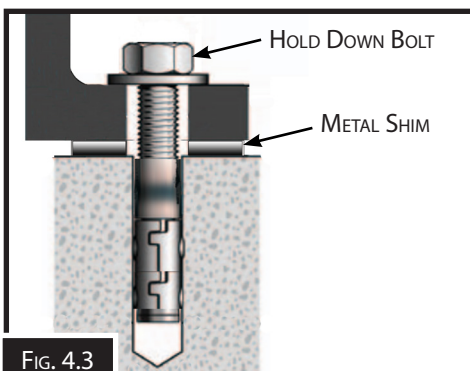

FIG. 4.3
After your machine has been anchored to a concrete slab floor, it then needs to be leveled. Loosen the hold down bolts and place a level on the surface of the working table. Metal shims need to be placed under corner of the base of the machine until level. Once level then tighten the hold down bolts. (Fig. 4.3).
*The machine must not rest on supports other than those defined in Fig. 4.3*